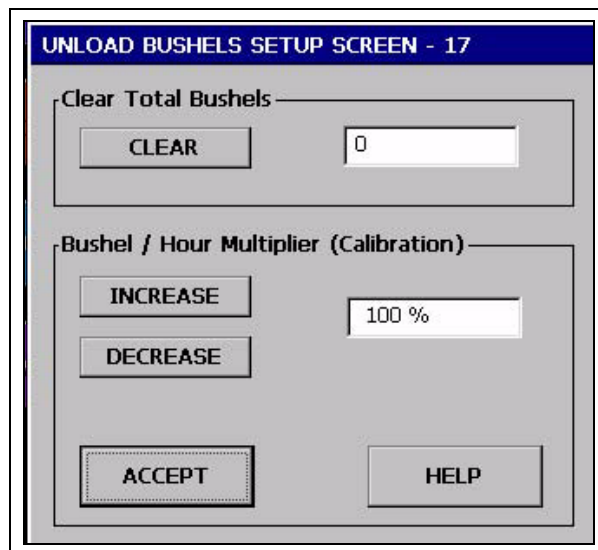

Figure 6M
4. **BPH calibration:** Touching the BPH Calibration button will display the Unload Bushels Setup screen. (See Figure 6M.) As you can see the bushel counter can be cleared by touching the Clear button. However if the bushel counter is out of calibration it can be calibrated by touching the Increase and Decrease buttons.